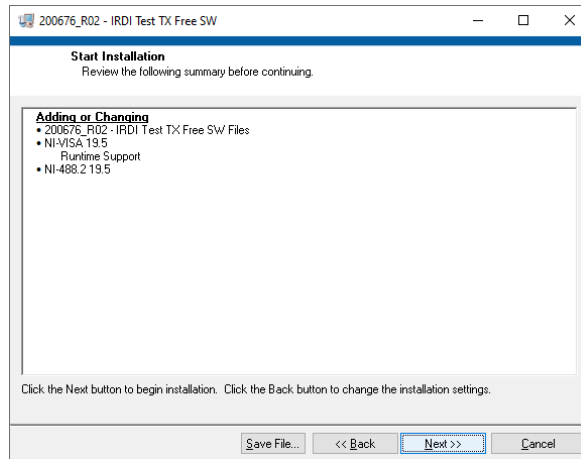

FIGURE 4-9 REVIEW COMPONENTS TO INSTALL
STEP 5	Review Component Installation – see Figure 4-9. Click Next >>.